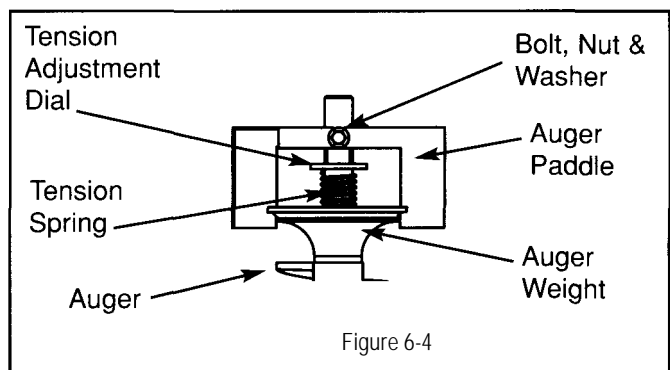

Figure 6-4
6. Remove bolt, nut and washers securing auger paddle to auger shaft (see figure 6-4).